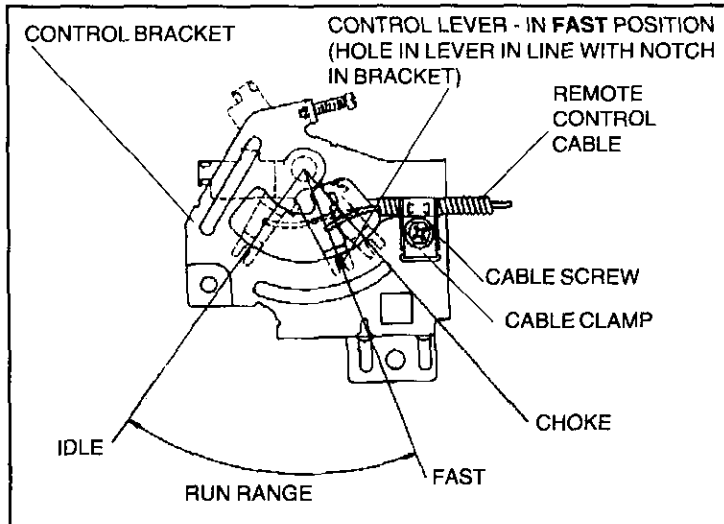

Figure 6
② REMOTE CONTROL (see Figure 6):